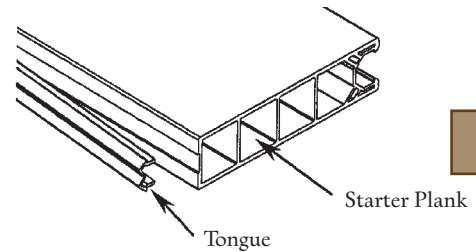

Fig. 1
Step 1 The tongue may be removed from starter piece. This can be done with a circular or table saw. (Fig. 1)